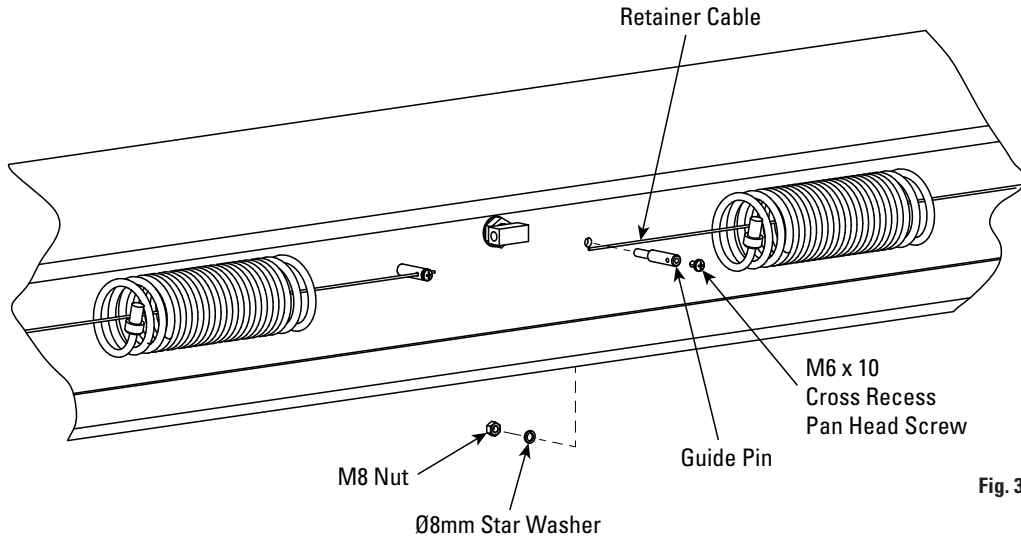
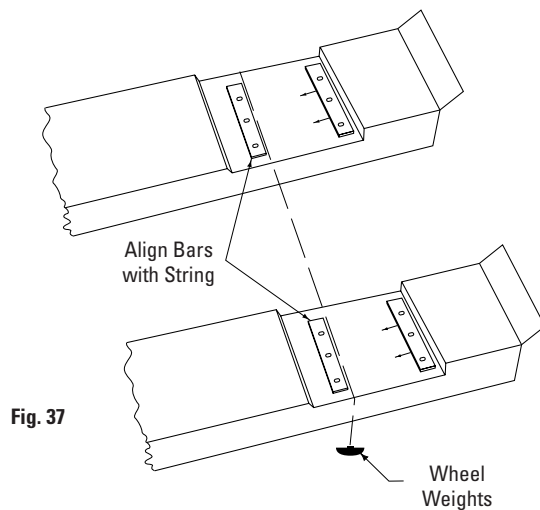

Fig. 36
Fig. 37
- A. Attach retainer brackets for the rear recoil hose with M8 star washer, lock washer and nut, Fig. 36.
- B. Insert retainer cable through coils of recoil hose, Fig. 37. Insert each end of cable into retainer brackets. Secure each cable end with a M6-10 cross recess pan head screw, Fig. 36.
- A. Assemble retainer cable following instructions in section 24. Insert retainer cable through coils of recoil hose, Fig. 36. Connect one end of recoil hose to coupling welded on rolling jack, Fig. 34 and 35.
- B. Place a weighted string, Fig. 37, across the runways so that the string is touching along the full length of both rear guide bars. If the string is not touching, tap the ends of the guide bars lightly until the guide bars make full contact against the string. Tighten the rear guide bar mounting bolts securely and remove the string.